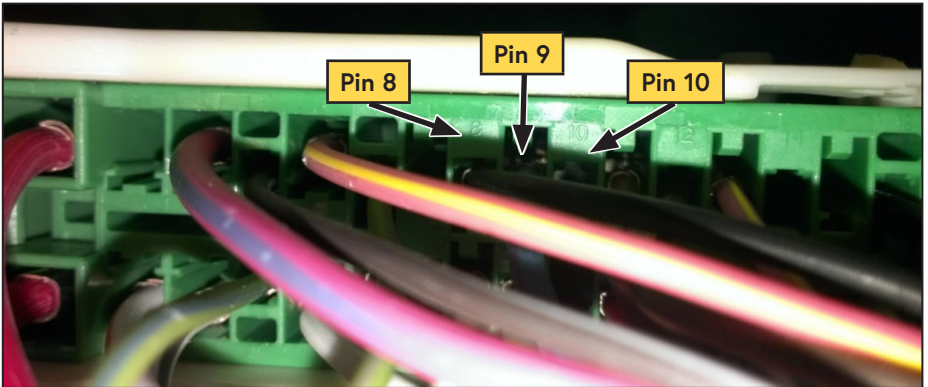

Figure 42 — Locating key switched power
- There are numbers printed on the back of the connector. Locate the pink wire with a yellow stripe at pin 9 (Figure 42).